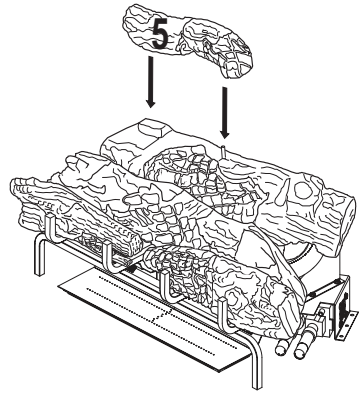

Figure 32 - Installing Log # 5
- Place the left top back log (#5) on top of the rear log. Match the rectangular projection on top of the left side of the rear log with the rectangular hole on the bottom of the left top back log. Match the metal pin on the top of the rear log with the round hole in the bottom of the left top back log. See Figure 32.